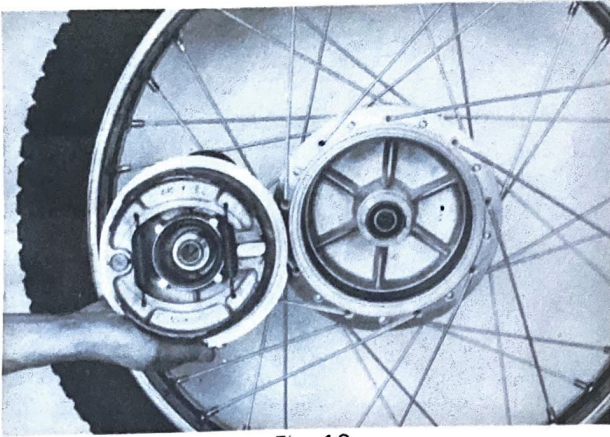

Fig. 10
c. Install the brake shoe in the wheel hub. (Fig. 10)